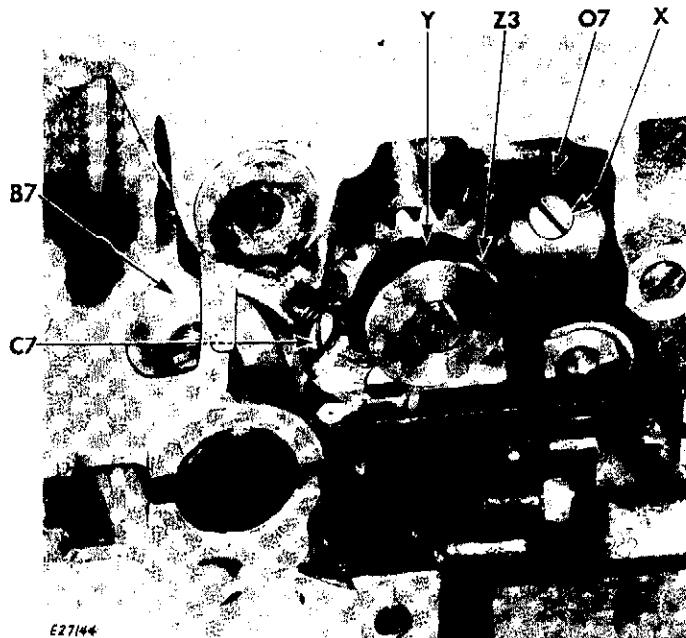

Fig. 315. Hook Shaft Bevel Gears
**NOTE: Flat on shaft K3 must be toward left end of machine (hook bracket end), so that set screw X, Fig. 315 may be fastened upon it.**
**CAUTION:** Hook shaft gear Y, Fig. 315, and hand wheel gear C6, Fig. 310, page 150, may be removed to facilitate adjustments. DO NOT DISTURB THE MESH OF ANY OTHER GEAR IN THIS MACHINE. All other gears are mated and correctly timed. Replacements should be made at the factory.
3. **Mark the two bevel gears Y and O7, Fig. 315,** with chalk or crayon, on one tooth of one gear and the corresponding space for that tooth between the teeth of the other gear, **to facilitate re-assembly.**
4. Loosen set screw Z3, Fig. 315.
6. Insert screwdriver through hole B7, Fig. 315, and loosen set screw C7.